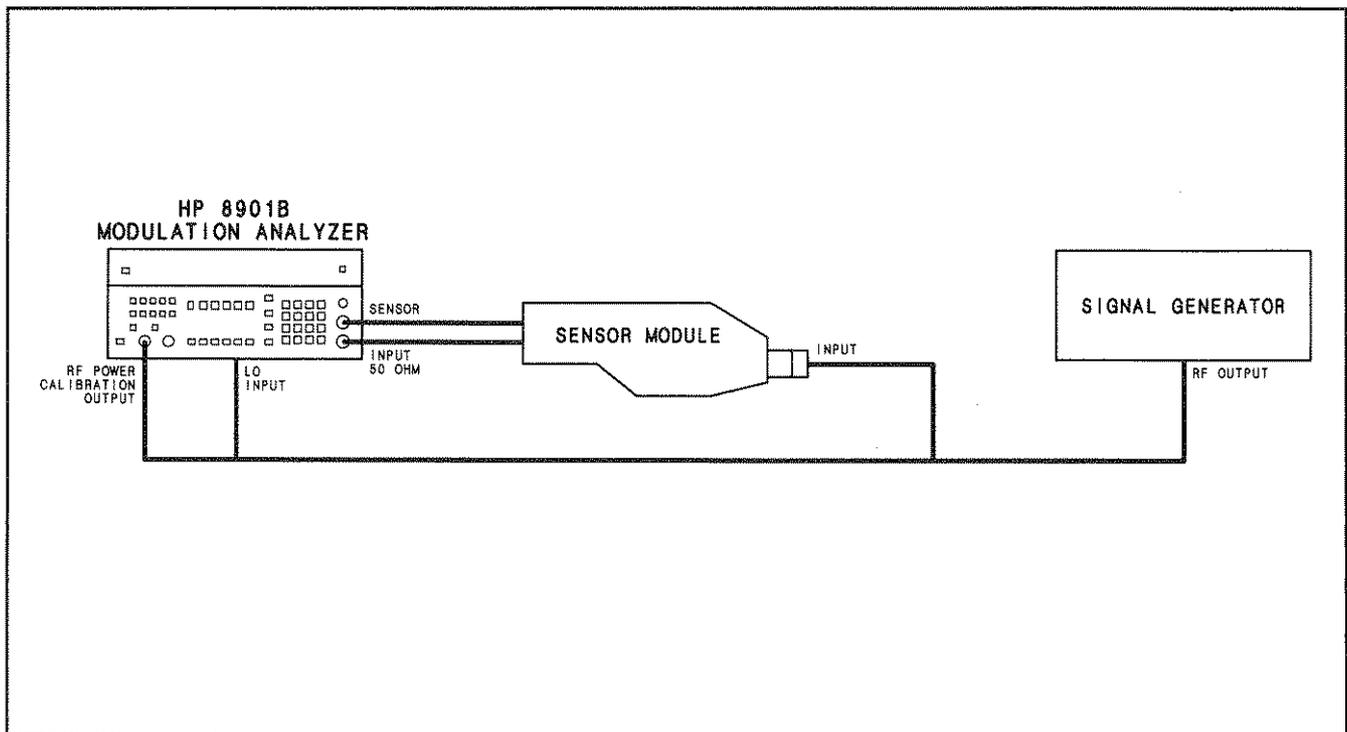

Figure 3-11. External Lo Check (Option 030) Setup
56. Set the signal generator to 51.50 MHz CW at 0 dBm. Connect the signal generator's output to the rear-panel LO INPUT connector. Connect the sensor module's input to CALIBRATION RF POWER OUTPUT connector. (See Figure 3-11.)